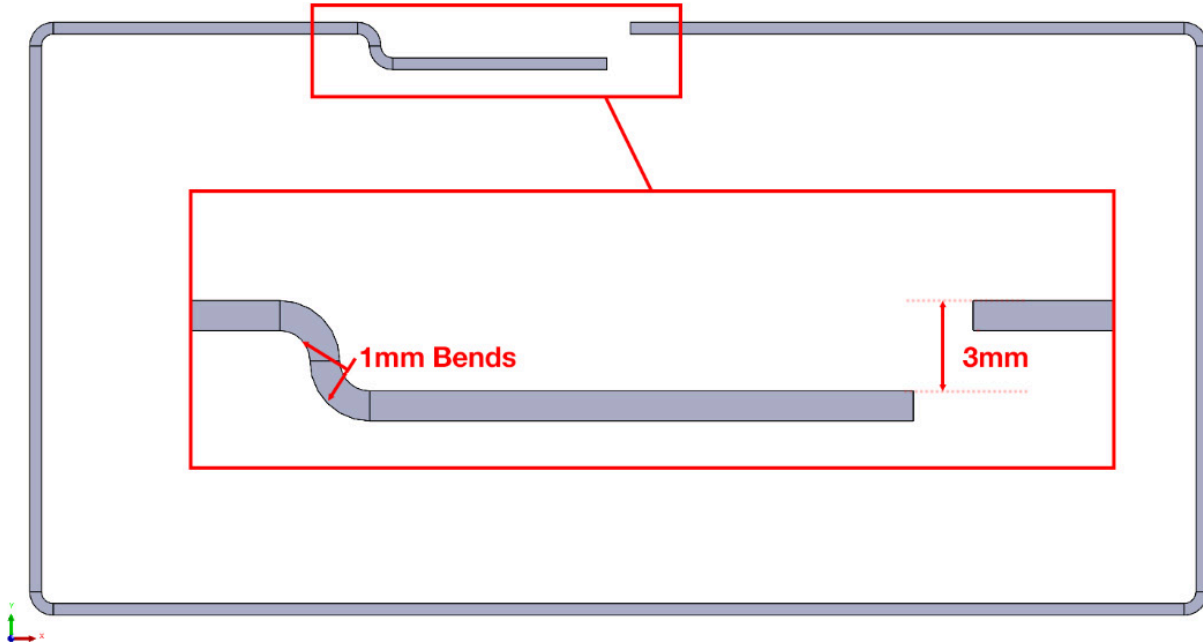

Figure 3.29: Sometimes, the Jog offset distance will be greater than what was specified
10. If we look at the model from the side (Figure 3.29) we can see that although we set an **Offset Distance** value of **1.5mm**, the **Jog** has actually been created with an **Offset Distance** value of **3mm**.